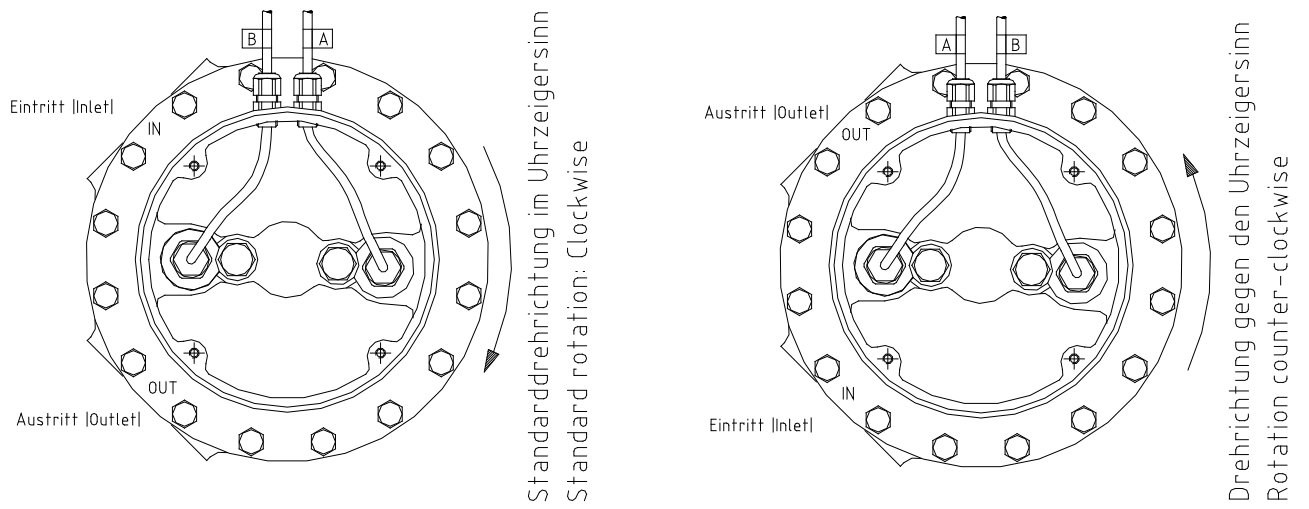

Figure 5: Marking of Cables regarding the Rotation
-  In principle the meter can operate in both flow directions. It has to be considered that an electronic flow computer detects the flow direction by measuring the phase shift of the two sensors A and B. (See Figure 5: Marking of Cables regarding the Rotation / page 13) If the sensors are connected not correctly to the interface the flow computer detects an error because it sees the wrong flow direction.